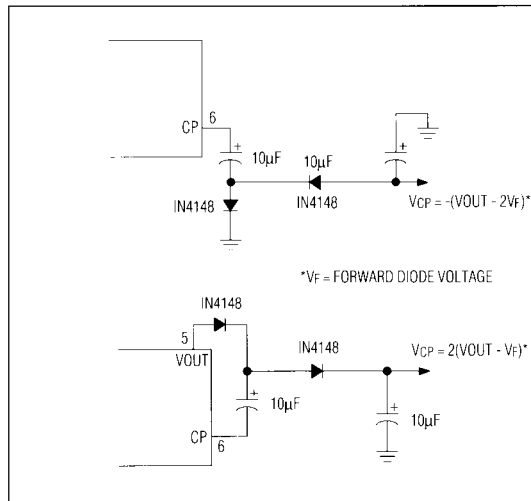

Figure 3. Using the Charge Pump (CP) output as a voltage inverter and/or doubler. Both circuits can be used together.
The Charge Pump (CP) output is a low impedance buffer which swings from ground to V_{OUT} at the oscillator frequency. Two external capacitors and diodes can be connected, as shown in Figure 3, to generate a negative output voltage of -(V_{OUT} - 1.2V) or a positive output of 2(V_{OUT} - 1.2V). 1.2V is the forward drop of 2 silicon diodes. Both circuits can be used at once if desired. With 10µF capacitors, the output impedance of V_{CP} is about 30Ω. If space is critical, the capacitors can be reduced, but with a slight increase in output impedance and V_{CP} output ripple.